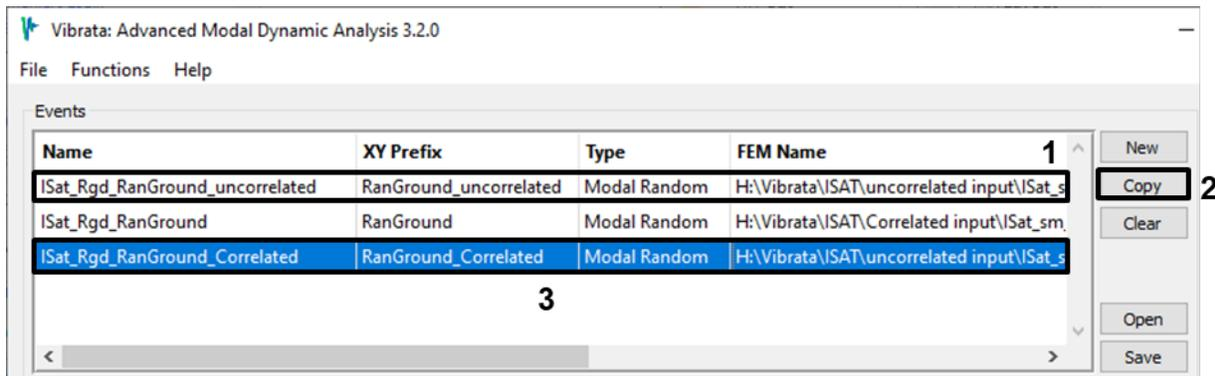

Figure 4-58. Copy the uncorrelated event; the new event will have correlated inputs.
1. Copy the uncorrelated event for the “4pt” model from example 4.3.3 and assign the new event a name indicating that it will have correlated inputs (Figure 4-58). It will still use the “4pt” model.